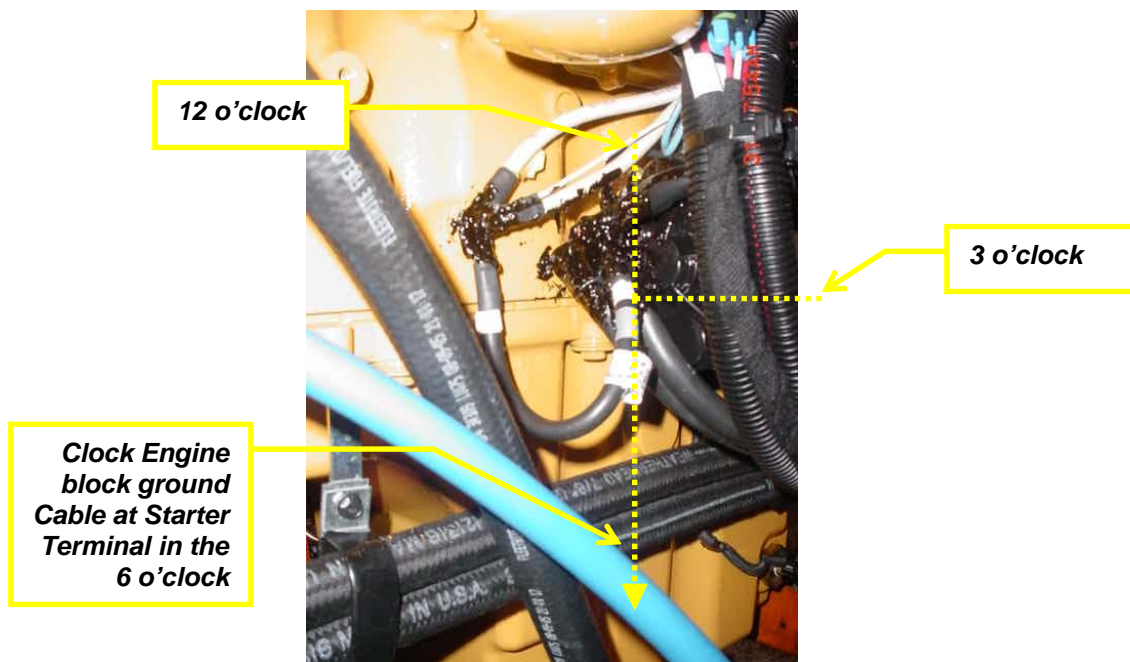

Figure 8 – Correct CAT (non-C15) engine block ground cable routing.
TO PREVENT CHAFING OF THE POSITIVE CABLES AGAINST THE ENGINE BLOCK GROUND CABLE (SEE FIGURE 7), PLEASE ENSURE ENGINE BLOCK GROUND CABLE IS CLOCKED IN THE DOWNWARD (6 O'CLOCK) POSITION, SEE FIGURE 8.
- ***If rubbing or chafing of the ENGINE GROUND cable against the Battery Cables is present***, rotate and tighten the new ground cable on the starter terminal so it is straight down (6 o'clock position) and *not* contacting the starter positive cables, see figure 8.